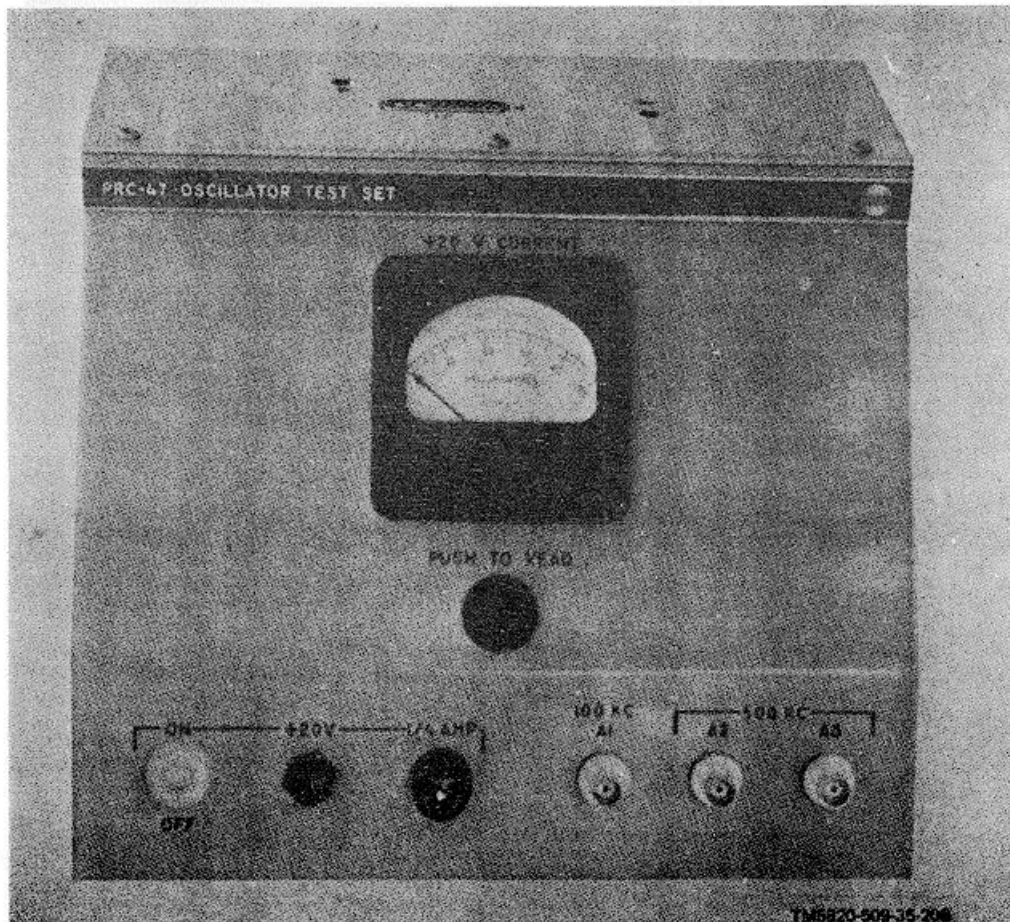
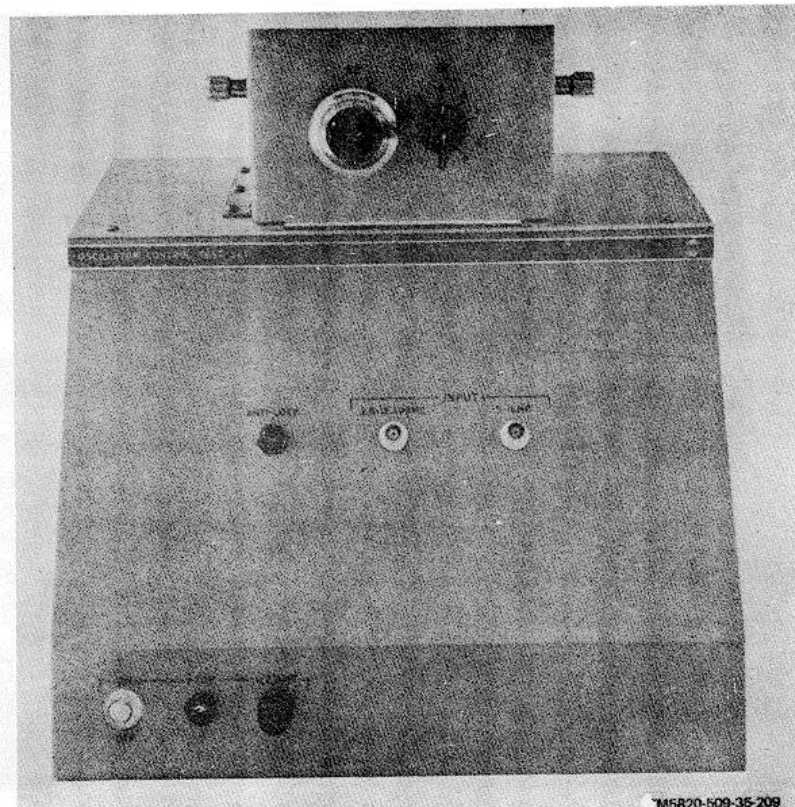

Figure 6-9. Test Fixture for O-1032/PRC-47, Suggested Layout.
Figure 6-10. Test Fixture for C-4311/PRC-47, Suggested Layout.
(3) Performance tests, 110-volts, 400-Hz primary power source.
e. *Radio Frequency Oscillator O-1032/PRC-47*. The following tests must be performed using the test fixture for O-1032/PRC-47 (fig. 6-9). A schematic diagram, parts layout photographs, and parts lists for this test fixture are included in section III.
- (1) Initial settings and adjustments.
- (2) Locked oscillator, divider, and output amplifier performance.
- (3) Locked oscillator Q4 and 500-kHz amplifier adjustments.
- (4) Locked oscillator Q8 and 100-kHz amplifier adjustments.
- (5) Final frequency calibration.
f. *Oscillator Control C-4311/PRC-47*. The following tests must be performed using the test fixture for the C-4311/PRC-47 (fig. 6-10). A schematic diagram, parts layout photographs, and parts lists for this test fixture are included in section III.
- (1) Pulse generator output.
- (2) 1.8- to 0.9-MHz ringer circuit alignment.
- (3) Crystal oscillator alignment.
- (4) 601- to 600-kHz filter test.
- (5) 550- to 750-kHz filter test.
- (6) Frequency discriminator test.
- (7) Error voltage balance adjustment.
- (8) Anti-lock test.
- (9) SMO mixers test.